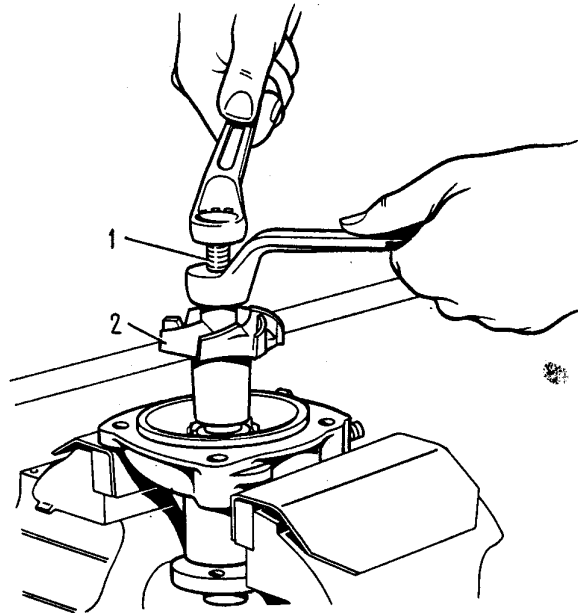

Fig. 2-63. Removing Pump Impeller:
- secure the cover in a vice using gaskets and take the impeller from the shaft with remover tool A.40026 (Fig. 2-63);